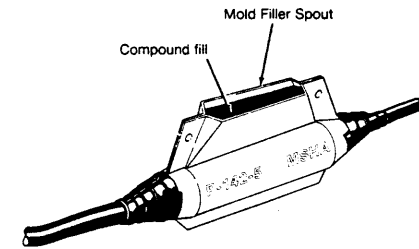

Figure 9
- Fill mold until compound reaches a level that is within the mold's filler spout (Figure 9).